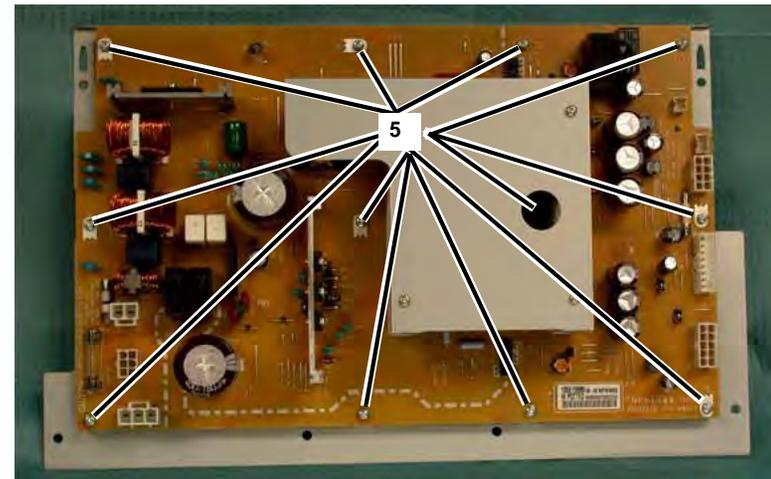

Figure 4 Removing Screws
5. Remove the Main LVPS (12 Screws) (Figure 4).